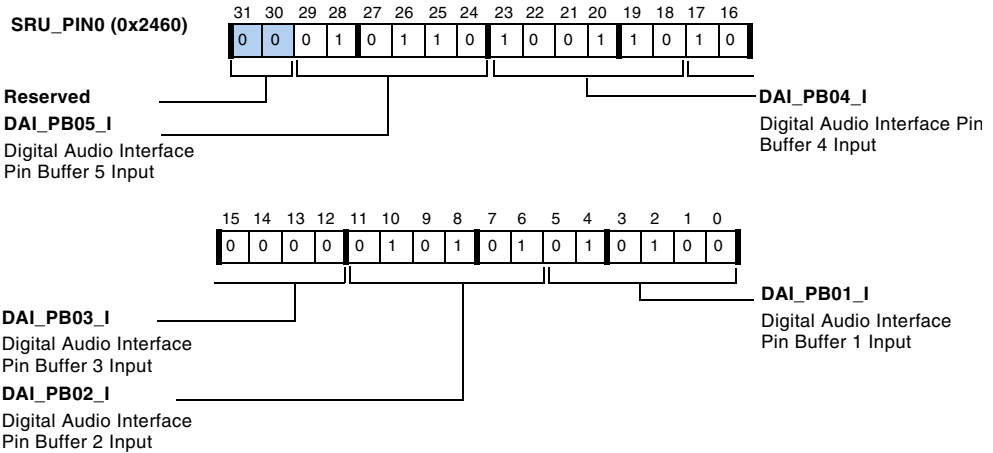

Figure A-46. SRU\_PIN0 Register
- SRU\_PIN0, described in Figure A-46